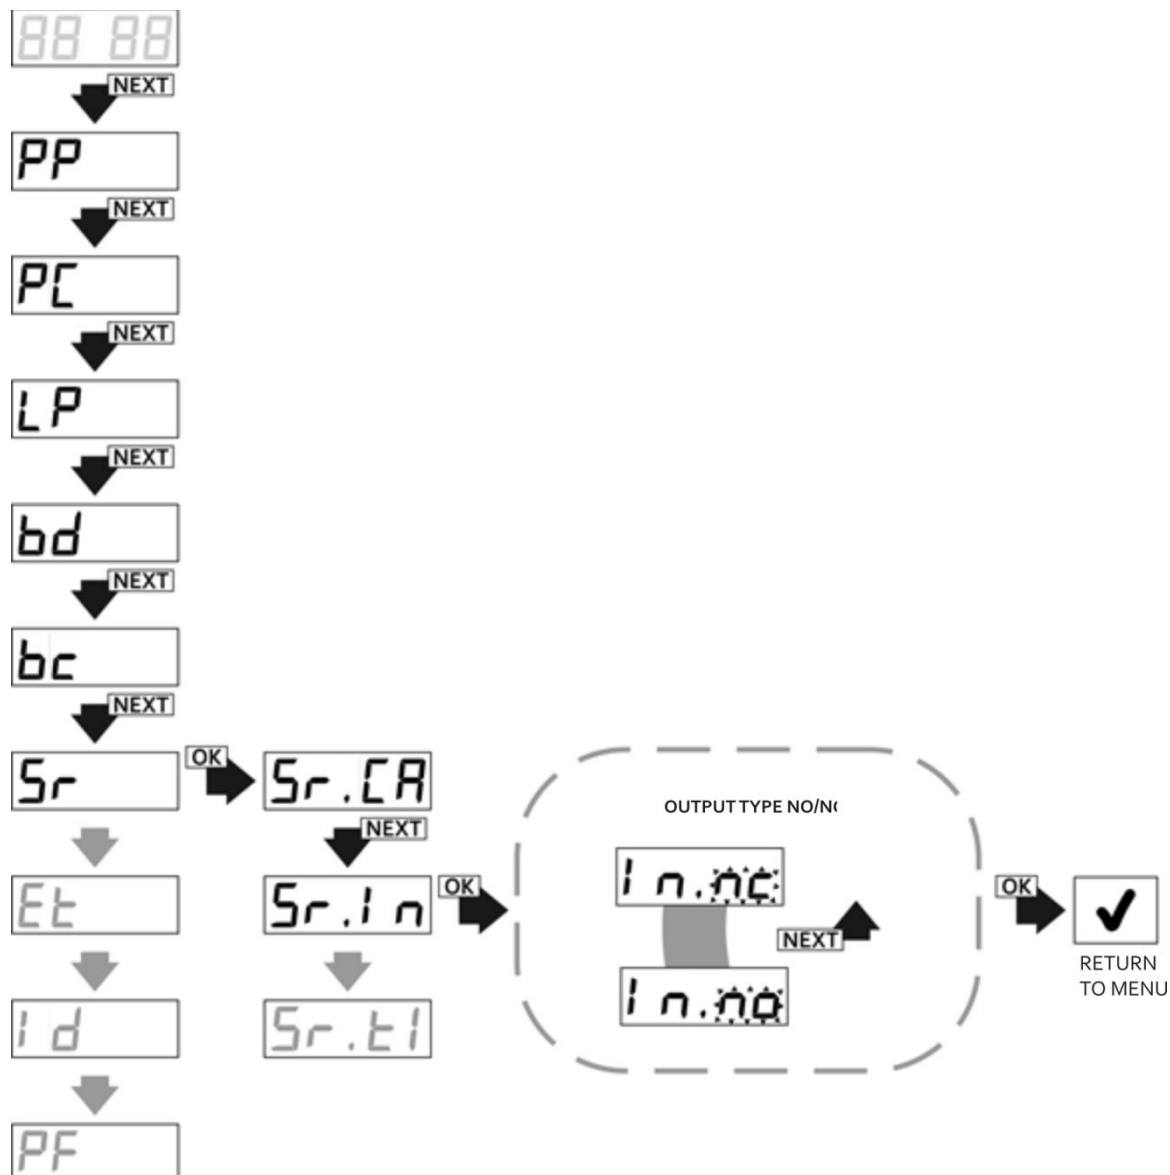

Fig. 23 Programming of manual control output type, Sr.In function.
- press OK/ESC button the display shows 'In.no' (Fig.23);